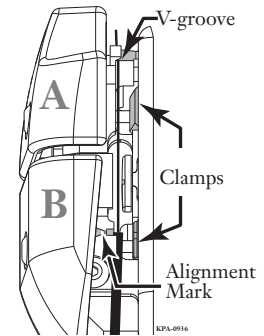

Figure 36 — Prepare Cleaver
Step 1: Ensure that both clamps are clean and free of fiber (Figure 36). Refer to Chapter 7, Maintenance and Troubleshooting for instructions on cleaning the clamps.